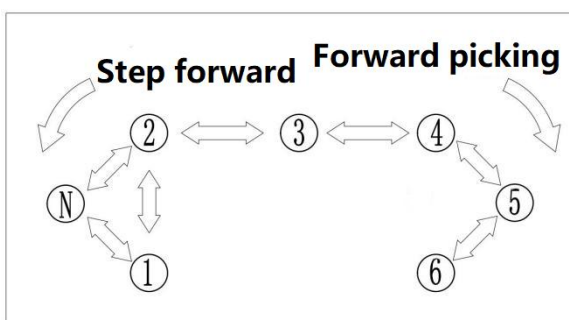
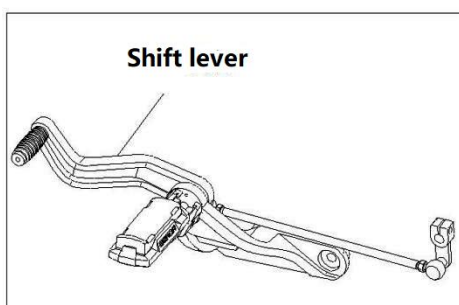

Fig14 Shift position
Fig15 Shift lever
5.4.1 Shift operation (Fig14、 Fig15)